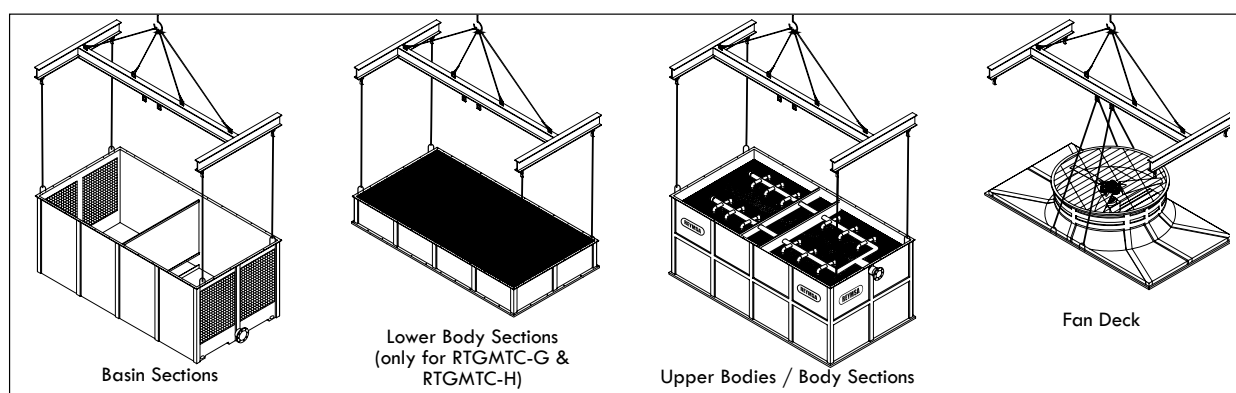

Figure A-107: Crane lifting for a Modular Tower (RTGMTC)
- C. For crane lifting, it's recommended to use a minimum lifting angle of 60° between the strap and the horizontal. Each section of the Tower has U-bolts for lifting. Place the straps through the U-bolts (as shown in Figure A-107) and use a spreader bar to avoid damage on the upper edge of the Tower. Don't balance until tensing the straps.